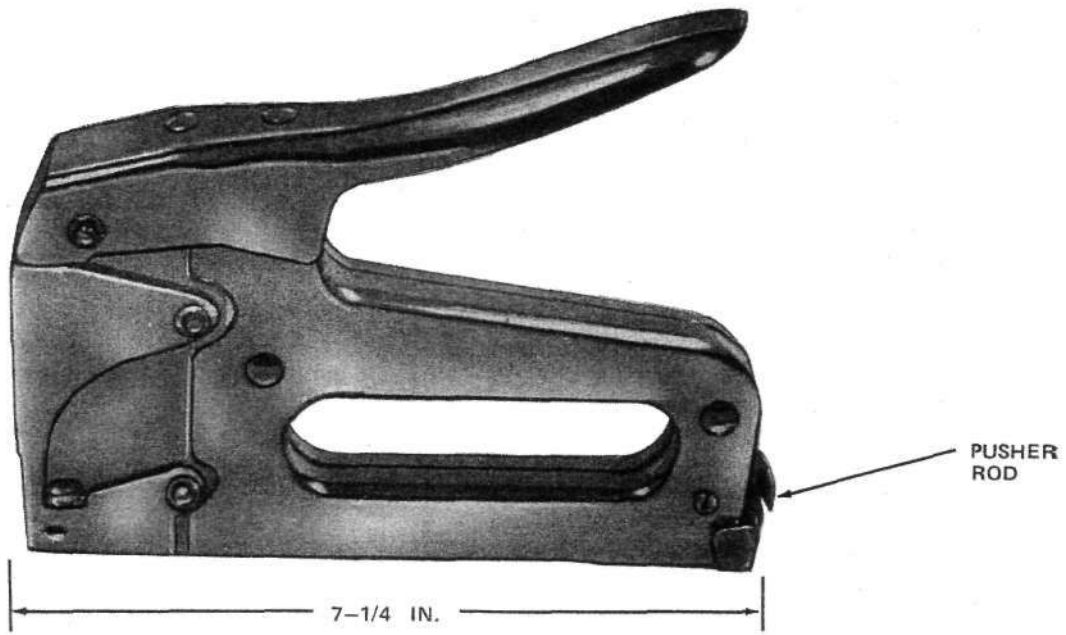

Fig. 1 — P Stapler
2.02 The designated P Stapler is a universal designation used by all manufacturers for the stapler using K, L, and M staples to fasten D- and H-station wire. The appearance may differ from the illustration (Fig. 1) but its basic design features and operation will be the same.